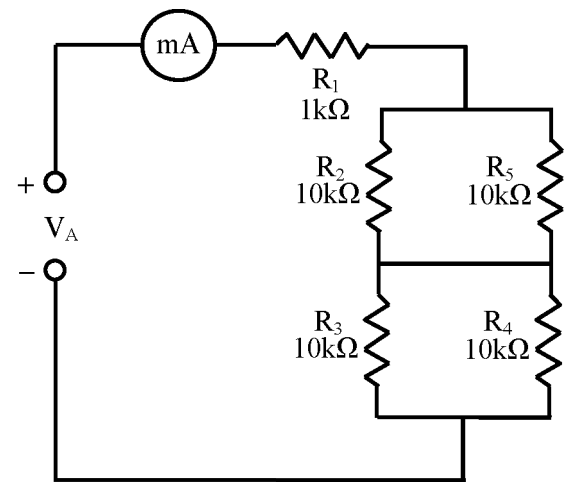

Figure 21-2
5. Calculate what the total resistance of the circuit would be if a $10\text{k}\Omega$ resistor (R_5) were added in parallel to R_2 . Use Figure 21-2 as a reference.